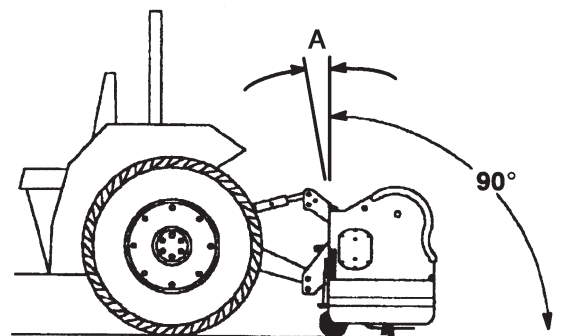

Figure 2
**NOTE:** The front of the aerator **MUST** be vertical or angle forward slightly while operating for best aeration hole quality (Fig. 2). This angle will change when depth adjustments are made. Adjust the upper link to control this angle. Refer to *Operation* for additional information.